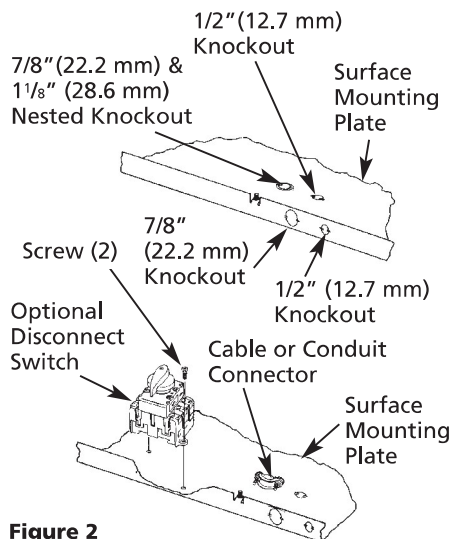

Figure 2
### INSTALLATION OF SURFACE MOUNTED HEATERS 2YU35, 2YU38, 2YU40, 2YU42 AND 2YU44 (See Figures 2 and 3)
3. Remove Surface Mount Enclosure from assembly. Remove four (4) nuts from studs so heater can be removed from surface mounting plate. **Do not discard** nuts since these will be used in Step 11 to mount heater back on to surface plate.
5. Install the optional disconnect switch 2YU45 (if required) as shown in Figure 2. Refer to Accessory Installation Manual for proper wiring.